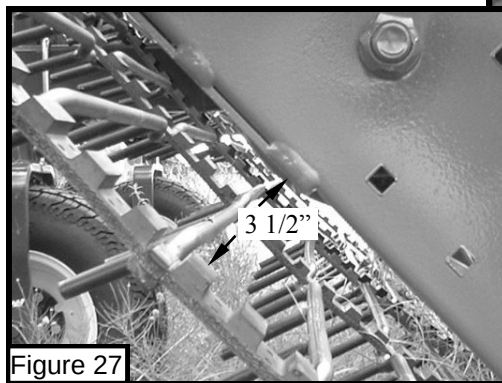
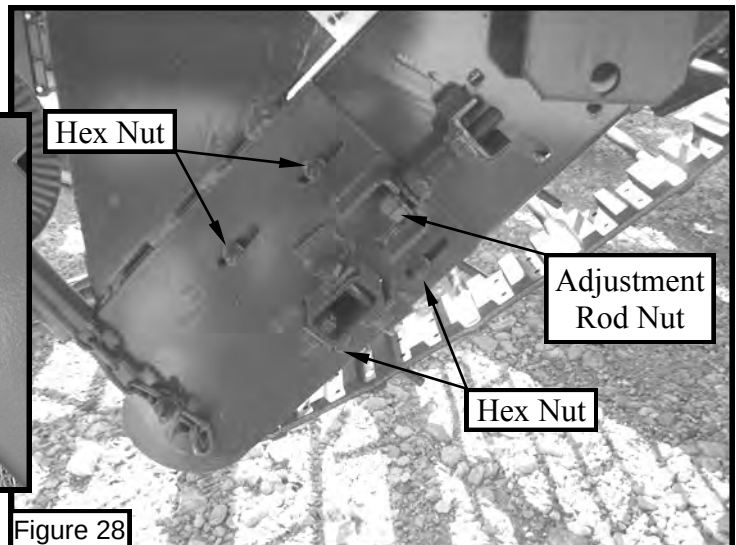

Figure 27
Figure 28
The Adjustment Rod Nut is used to tighten or loosen the tension on the inverter belt. First loosen the (4) flange hex nuts on both sides of the rattler side frame. To remove slack, turn Adjustment Rod Nut counter-clockwise to tighten belt assembly. To increase slack, turn Adjustment Rod Nut clockwise to loosen belt assembly. When the desired tension is reached, retighten the (4) flange hex nuts on both sides of the rattle side frame, then tighten adjustment rod nut so that it will be locked into position. Refer to figure 28. A new belt assembly is preset at the manufacture at approximately $3\frac{1}{2}$ ". Slack is measured at a location at the edge of the sheet metal strap on the bottom of the rattler side frame as shown in figure 27.